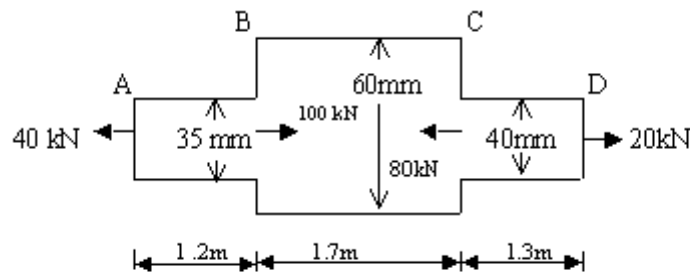

Figure 1:
- (c) A steel rod ABCD is loaded as shown in Figure1. Estimate the total deformation and stresses. Take $E = 210 \text{ kN/mm}^2$.